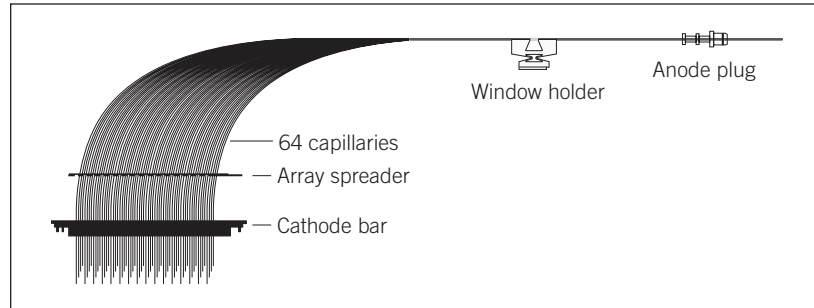

Figure 5-6. A capillary array.
- Using a laboratory wipe and starting just below the anode plug, gently wipe toward the anode tips of the capillaries to remove the matrix from between the capillaries in the anode bundle. See figures 5-6 and 5-7.